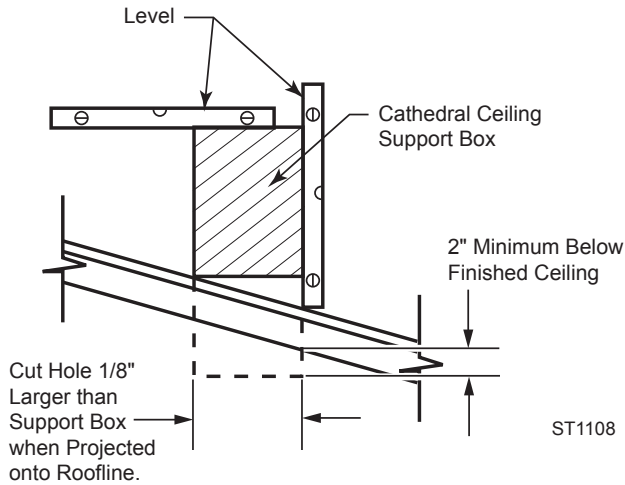

Figure 21 - Cathedral Ceiling Support Box Installation
2. Cut the hole 1/8" larger than the support box outline. *Figure 21*
3. Lower the support box through the hole in the roof until the bottom of the box extends at least 2" (mm) below the ceiling. *Figure 21*. Align the support box vertically and horizontally using a level. Temporarily tack the support box in place through the inside walls and into the roof sheathing.